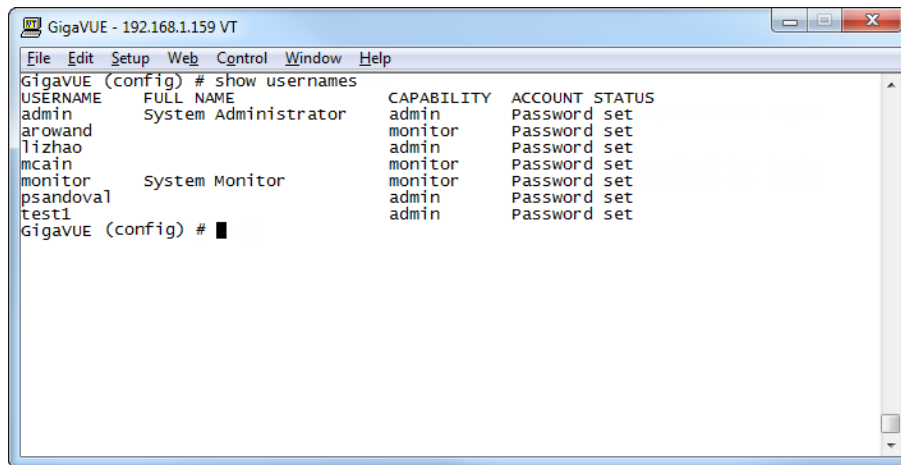

Figure 9 Reviewing the User List
- Once you have configured these basic user accounts, use the **show usernames** command to review your settings. Figure 9 Reviewing the User List shows some sample **show usernames** output after several users have been added.